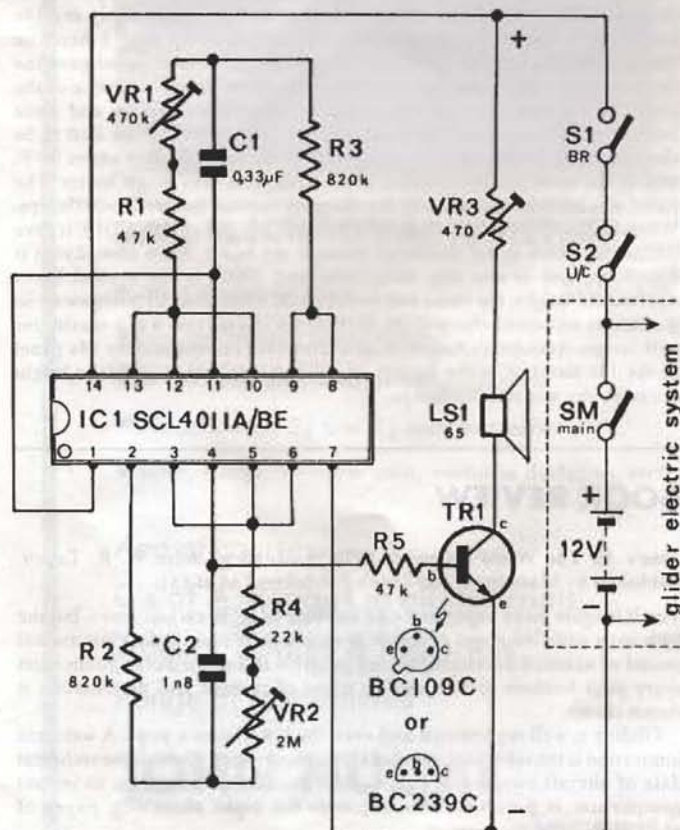

Fig 2. Circuit diagram of alarm system. All resistors 0.25 watt, capacitors of polyester.
The alarm (Fig 2) is designed around a Quad 2-Input NAND gate. This modern, integrated circuit (IC) looks like a black, silver-legged caterpillar and is cheap and readily available. It allows the use of sophisticated circuitry without complex wiring (or understanding). For those who are curious, each pair of gates forms a square wave oscillator, the first generating a pulse which switches the second or tone oscillator. The output is boosted by a small transistor and issues melodically from a miniature speaker. Adjustment of VR1 varies the pulse from about two per second upward to a fast warbling sound. VR2 varies the tone over a very wide range and VR3 varies the volume which is adequate for the noisiest cockpit.
The alarm can be placed anywhere the pilot can hear it and need not take up sparse panel space. It should be wired directly into the aircraft's 12v supply without its own on-off switch. A main switch (SM, Fig 2) or circuit breaker should be added to govern the whole aircraft's electrical system and will prevent accidental activation of the alarm or radio while the aircraft is idle or in the trailer. When flying, the alarm would be switched on automatically with the rest of the electrical system. It would allow the alarm to be switched off if a deliberate, wheels-up, off field landing is necessary. The micro-switches (S1, S2) can be either mounted below the seat pan, where they are out of the way, or above in contact with the brake and undercarriage levers. While 12v is optimum for the alarm, it runs efficiently from 8-15v. The unit draws about 50-70mA but should not be heard very often. The cost should be comparable to an aerotow.